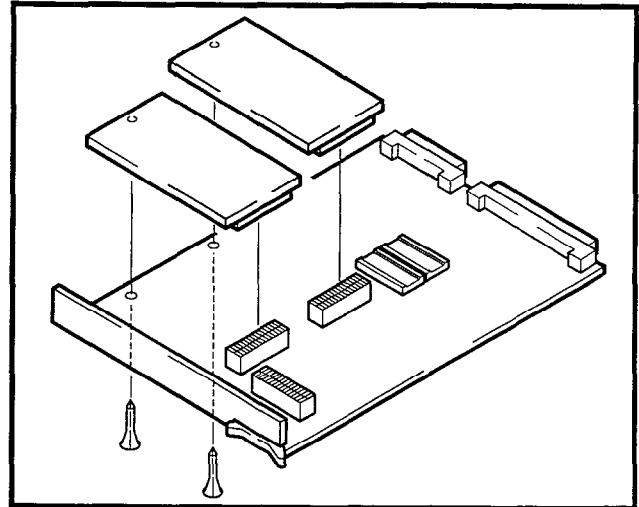

FIGURE 4-16—NRCU MOUNTING
3.32 If NRCUs are to be installed, mount them on the NPRU. The first NRCU mounts on connector **J3**, the second on **J4** (see Figure 4-16).